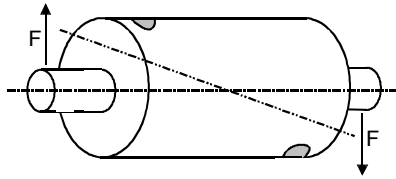

Figure 65: Couple balance
**Couple balance** occurs when the rotor axis and the mass axis are not congruent and when both axes intersect at the center of mass. The resulting force effect on the bearings is equal in amount but different in direction by  $180^\circ$  (Figure 65).